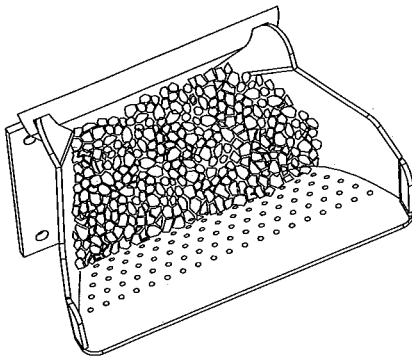

Fig.16
2. **Fill the burn pot** with DRY coal so that it is level with the bottom row of holes. (The combustion air comes only from the burn pot holes; therefore, any starting material must be over the holes.) See Figure 16.